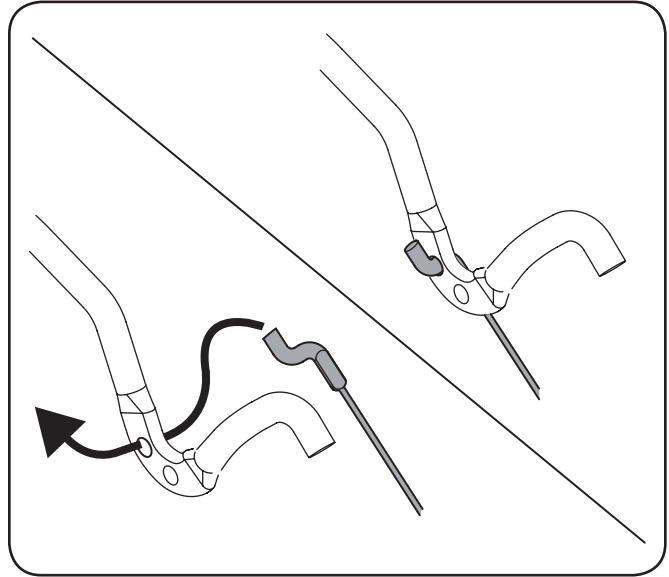

Figure 6-6
4. There is now sufficient slack in the drive control cable to grasp the z-fitting with your hand and move it from the front hole to the rear hole of the drive control. See Figure 6-6.